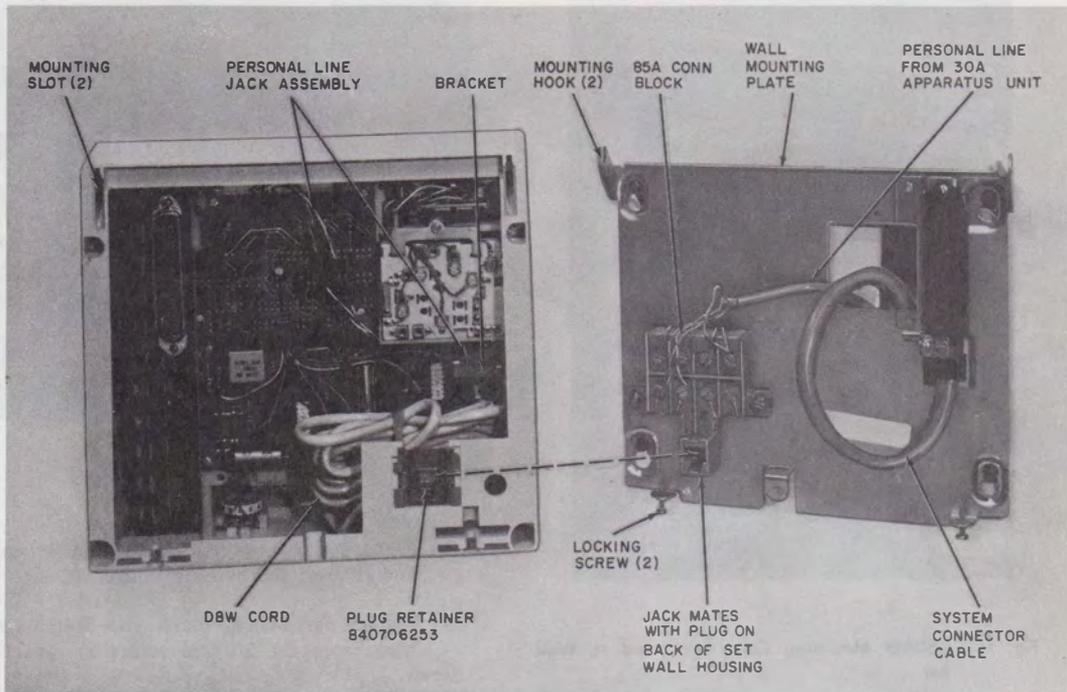

Fig. 14—Basic Satellite Wall Set Disassembled
(b) In some installations, a connector cable may be concealed in the wall and brought through an opening behind the telephone set (Fig. 14).
- (j) Snap the plug retainer onto the wall housing (Fig. 14) so that the cord plug will mate with the jack in the 85A connecting block to be mounted on the wall plate (see 3.21).
- (c) Mount the 85A block on the wall mounting plate with the two screws supplied with the plate (Fig. 14).